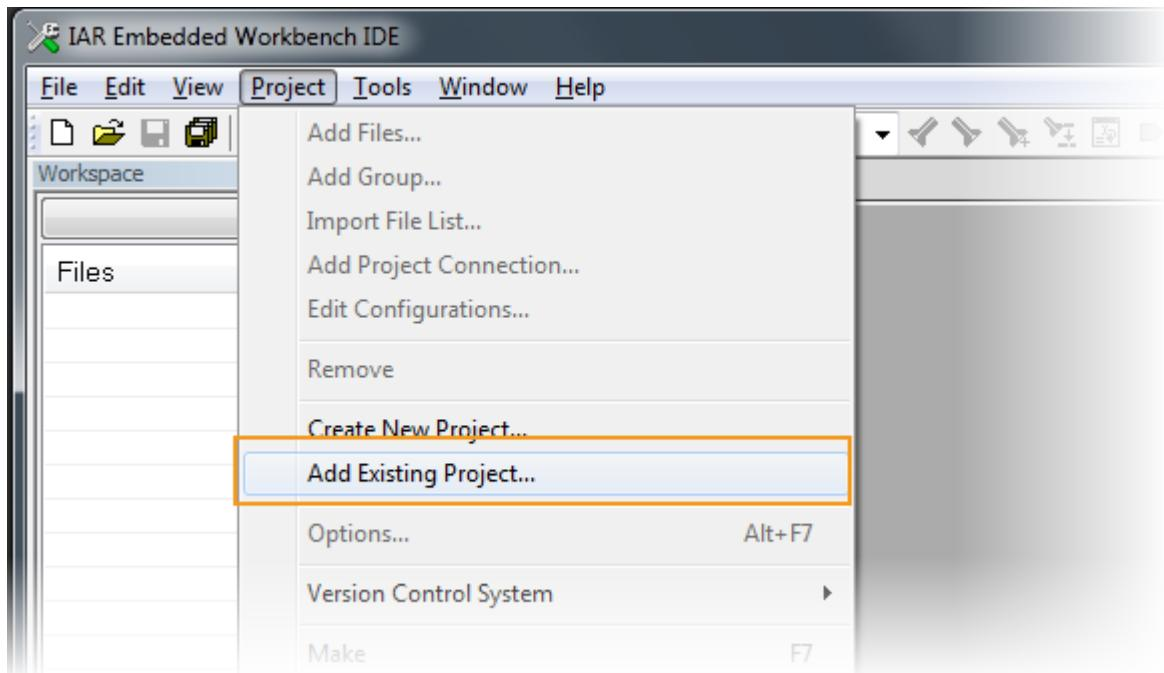
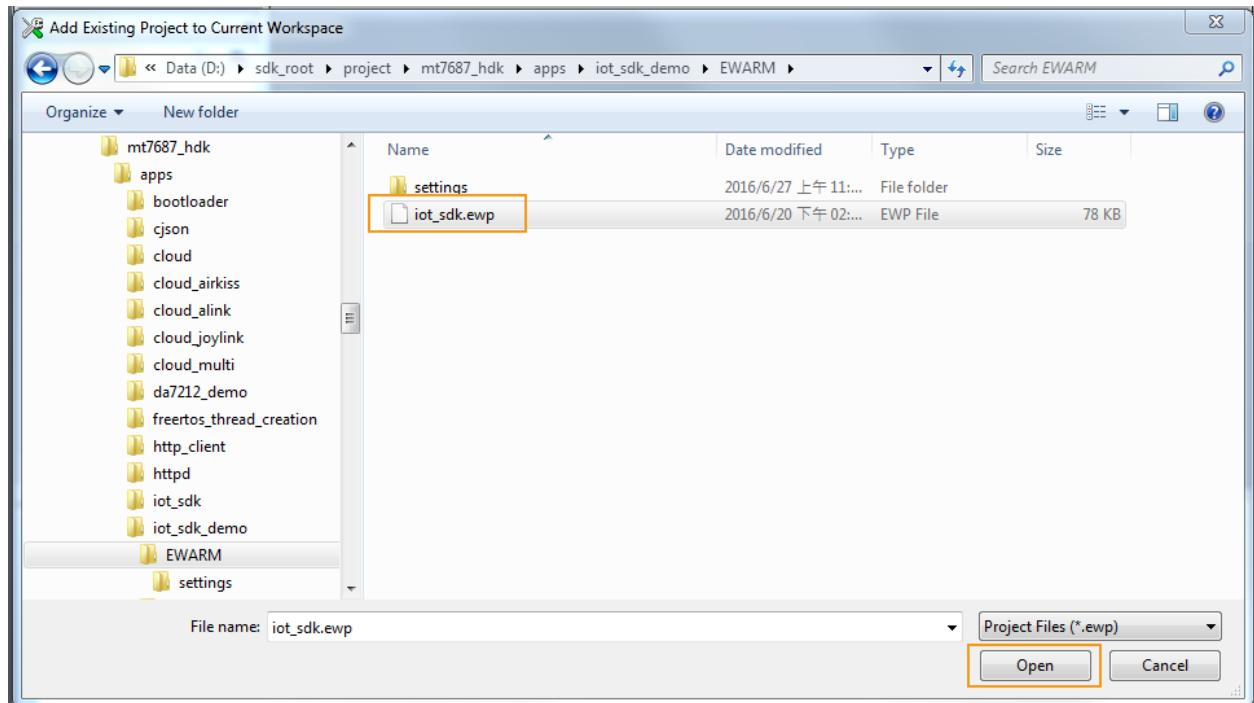

Figure 59. Importing the preconfigured project
Figure 60. Adding an existing project
- Navigate to **Project** (see Figure 59) in the IDE's main menu, then **Open Project**. Click **Open** to import the project. The project file is named as <project>.ewp, such as the one shown in Figure 60.